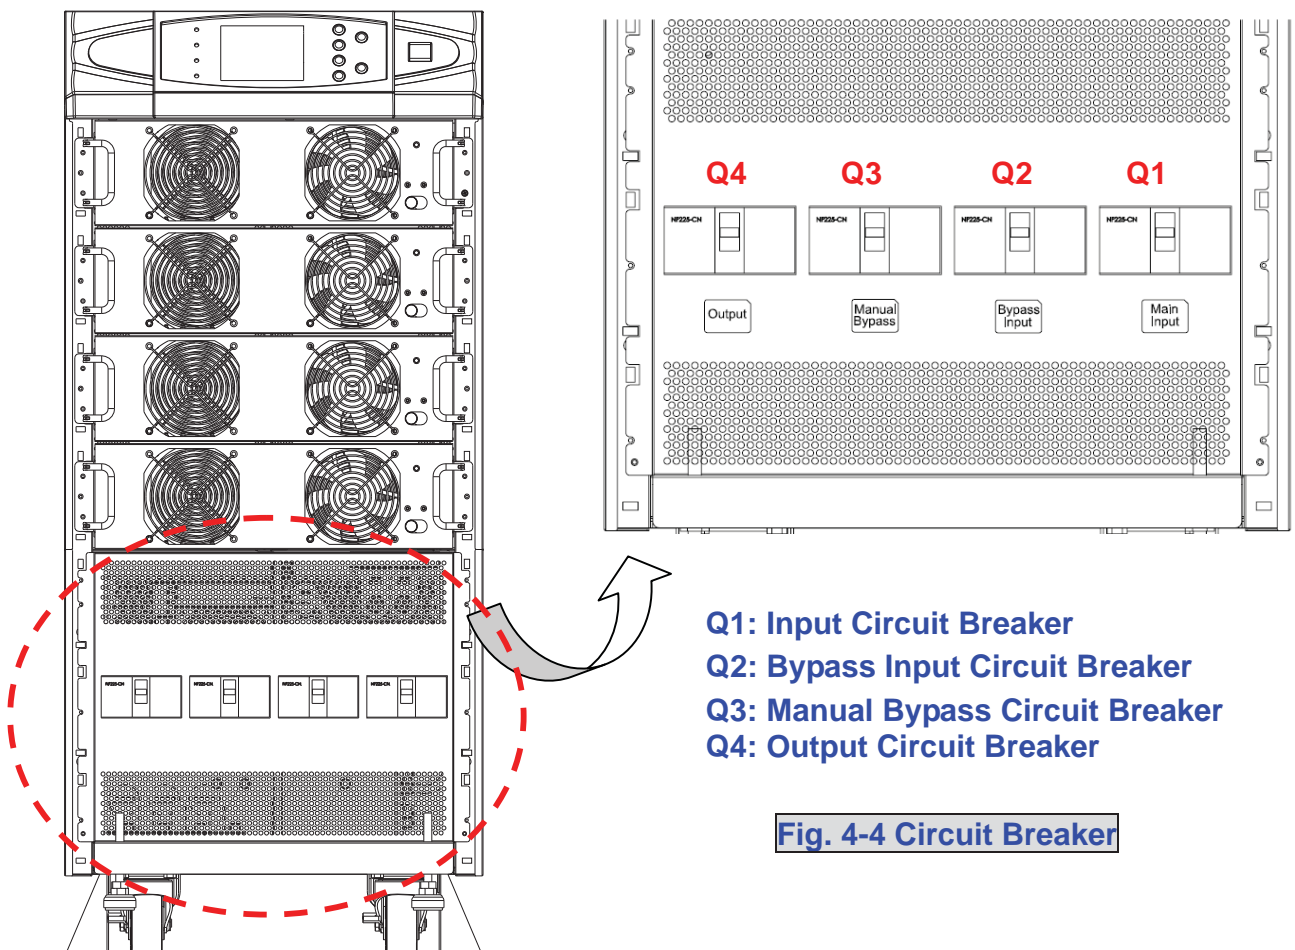

Fig. 4-4 Circuit Breaker
5. Confirm if the input and bypass input circuit breakers (Q1 and Q2) are cut off (Refer to Fig.4-4).
1. Confirm if the input and bypass input breaker (Q1 and Q2) are cut off (Refer to Fig. 4-4).